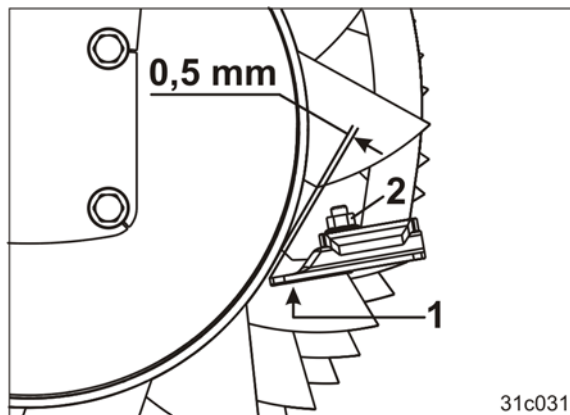

Fig. 124
4. Unscrew the screw (Fig. 124/2).
5. Screw on the scraper (Fig. 124/1) with a distance of 0.5 mm to the roller tube.